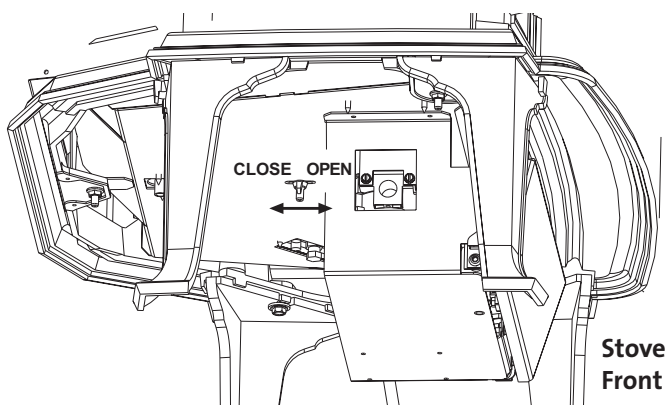

Figure 38.
1. Reach under the stove and loosen the wingnut. See fig. 38. Slide the wing nut stud forward to open the air shutter and back to provide less air. Before making any adjustments, start at the factory shutter settings: